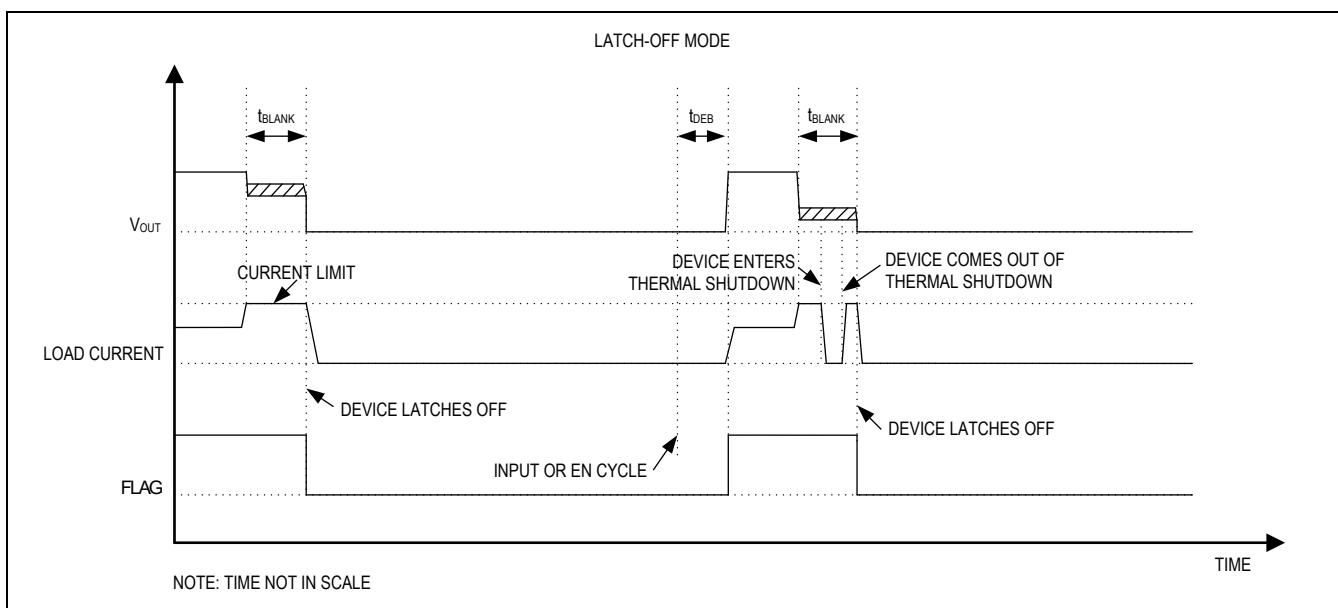

Figure 5. Latch-Off Fault-Timing Diagram
In latch-off current-limit mode, when current through the device reaches the current-limit threshold, the t_{BLANK} timer begins counting. The \overline{FLAG} pin asserts if an overcurrent condition is present for a period more than t_{BLANK} . The timer resets when the overcurrent condition disappears before t_{BLANK} has elapsed. If the device enters thermal shutdown mode, the output Q2 FET turns off and it turns back on after the junction temperature cools down by $T_J(HYS)$. The device turns off and stays off if the overcurrent condition continues beyond t_{BLANK} . To reset the device, either toggle the control logic (EN) or cycle the input voltage. Figure 5 depicts typical behavior in latch-off current-limit mode.